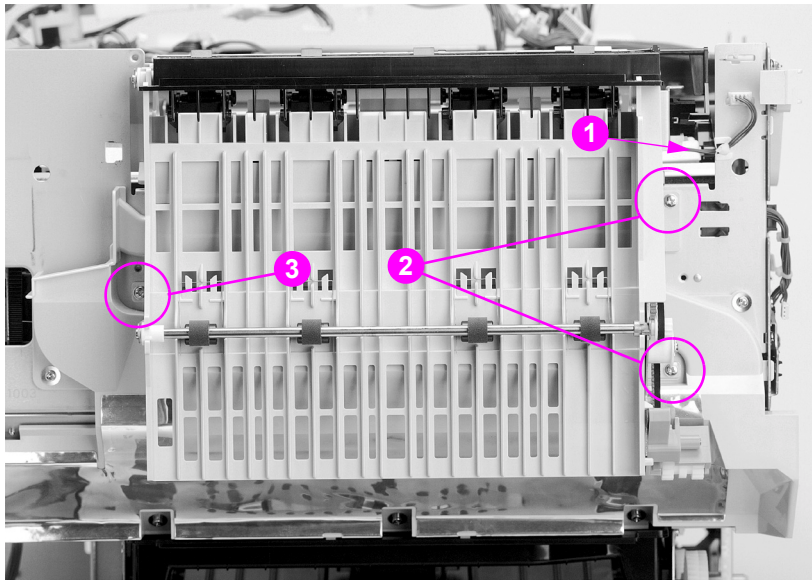

Figure 6-62 Rear paper path assembly removal and replacement
- 5 Disconnect the bin full sensor shown in callout 1, Figure 6-62, and free the cable from the cable stay.
- 6 Remove the three screws from the face-down assembly shown in callouts 2 and 3, Figure 6-62.
Note the position of the black shoulder screw and metal bracket shown in callout 3, Figure 6-62.